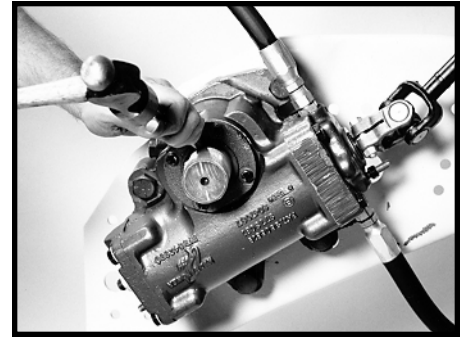

Figure 15
1.11 Pack clean high temperature industrial grease per Ross specification 045231, *Mobil Temp. 1 or 2 or equivalent around seal area of sector shaft (50). Install a new dirt and water seal (27) using a suitable blunt end drift. SEE FIGURE 15.